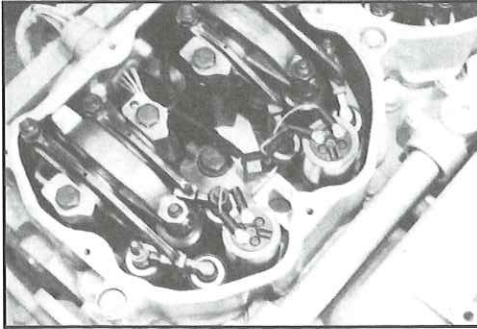

Fig. 3
The photographs in this manual show the valve cover base in place during engine brake installation. Production engines will be equipped with a cover base (1) that includes three support brackets (2) for containment of the injector wire harnesses. See Fig. 3.